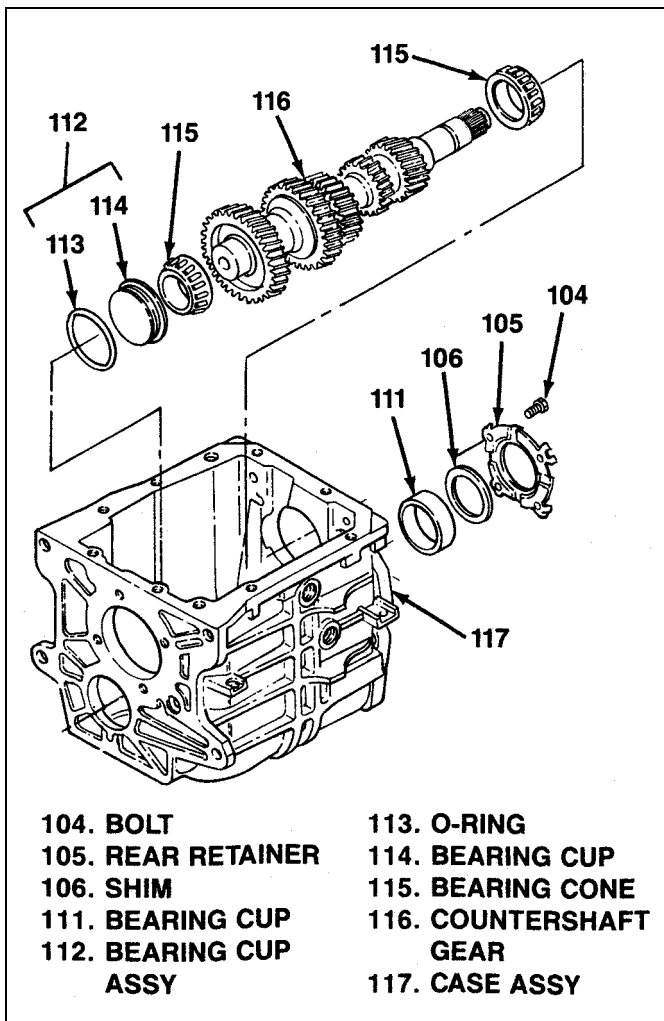
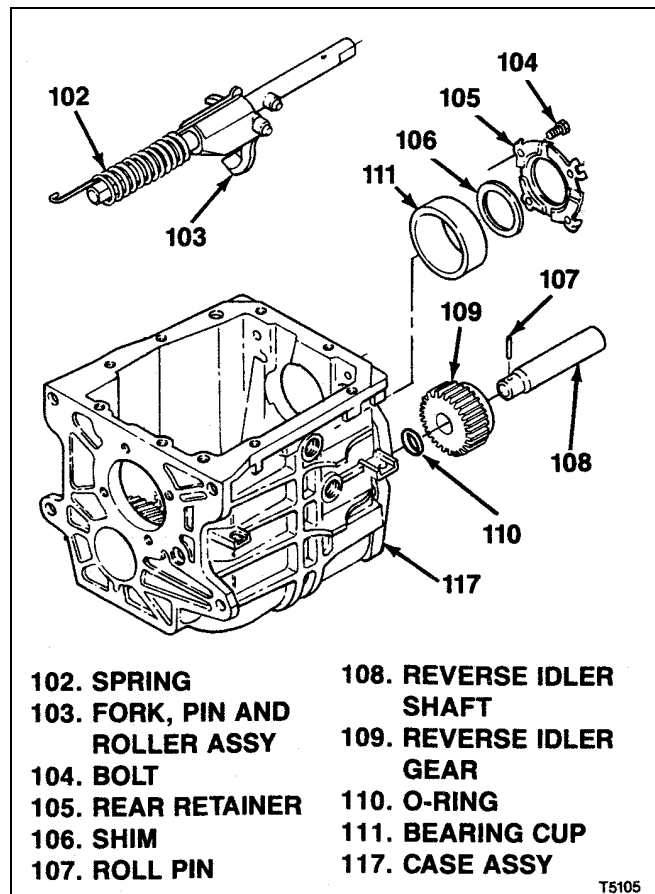
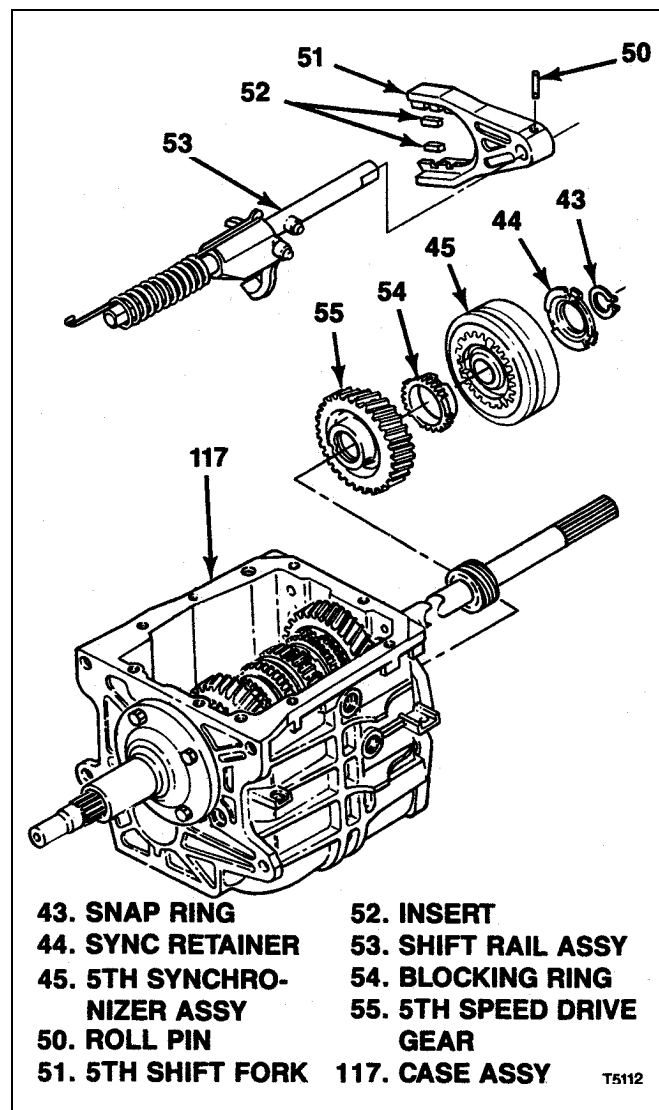

Figure 6-5. T5 WC Countershaft Gear
Figure 6-6. T5 WC Reverse Fork and Idler Gear
Figure 6-13. T5 WC 5th Synchronizer, Shift Fork and Gear
6-8. ASSEMBLY AND INSTALLATION OF T5 WC COUNTERSHAFT GEAR (see figure 6-5):
6-9. INSTALLATION OF T5 WC REVERSE FORK AND IDLER GEAR. With assembly completed as described through paragraph 6-8, proceed as follows (see figure 6-6):
6-15. INSTALLATION OF T5 WC 5TH GEAR, SHIFT FORK AND SYNCHRONIZER. At rear of transmission, install parts as follows (see figure 6-13):
- a. Install 5th speed drive gear (55) and blocking ring (54) on end of countershaft gear (116, figure 6-5).
- b. Attach 5th shift fork (51) to shift rail assembly (53) with roll pin (50). Install inserts (52) on 5th shift fork.
- c. Engage 5th shift fork (51) with previously assembled (paragraph 6-7) 5th synchronizer assembly (45) and install together in transmission noting the following:
2. Guide shift rail assembly (53) through reverse fork, pin and roller assembly and spring (103 and 102, figure 6-6) previously installed.
- a. Install 5th synchronizer retainer (44) and snap ring (43).
- a. Work 5-R shift lever (42) into engagement with rollers on previously installed shift rail assembly (53, figure 6-13) and fork, pin and roller assembly (103).
- b. From outside transmission install pivot pin (40) through case and 5-R shift lever (42). Torque pin to 20 lb-ft (27Nm).
- c. Inside transmission, attach lever to pin with retaining ring (39).
- d. Install back-up switch (41).
- e. Using needle nose pliers, hook free end of previously installed spring (102, figure 6-6) on pin in transmission case (117).